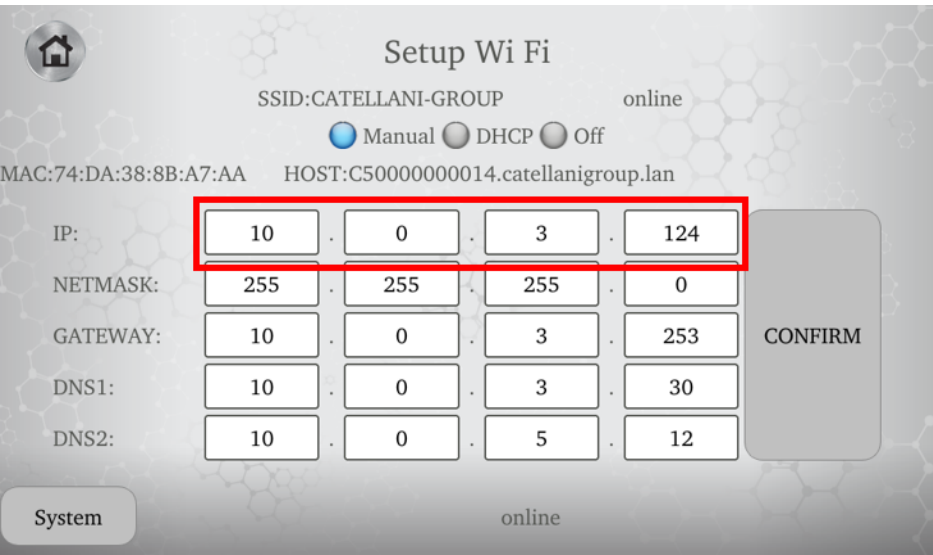

Figure 19
- a) <http://IP address> (ex: <http://10.0.3.124>) (see Figure 19)